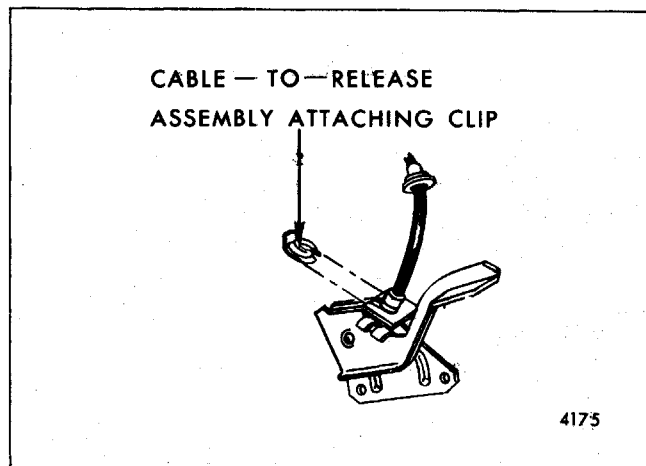

Fig. 4-30-Hood Latch Cable-to-Release Handle Attachment - "H" Body (Less "07,27" Style)
4. To detach cable from release assembly, remove clip securing cable to release handle (Fig. 4-30).